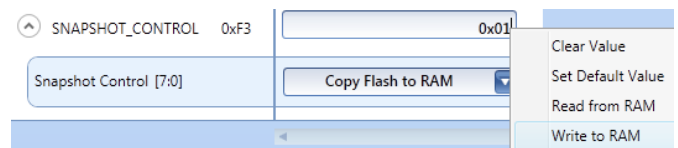

Figure 6. Write of SNAPSHOT\_CONTROL in Registers view.
3. Restore snapshot data from NVM to RAM by writing 0x01 to SNAPSHOT\_CONTROL. This can be done in the Registers view by right-click and choose *Write to RAM*, see Figure 6.